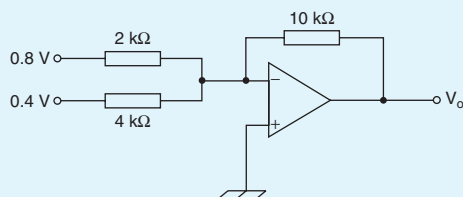

Figure 19.28
7. For the op amp shown in Fig. 19.28, the output voltage, V_o , is: